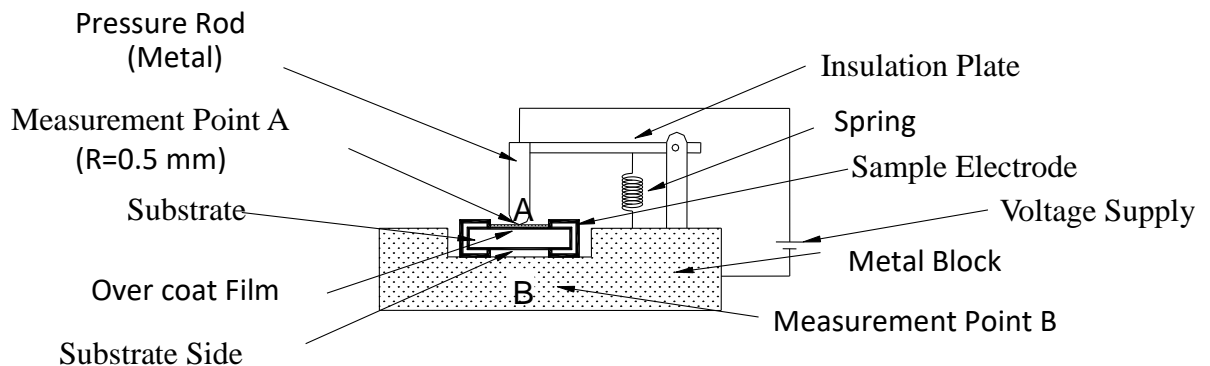

Figure 1 : Measurement Setup
| Insulation Resistance                         | Over 100 M $\Omega$ on Overcoat layer face upOver 1,000 M $\Omega$ on Substrate side face up  | (1) Setup as figure 1(2) Test voltage: 100VDC $\pm$ 15VDC(3) Test time: 60 + 10 / - 0 seconds |
| Voltage Proof                                 | Resistance range: $\pm 1.0\%$Without damage by flashover, spark, arcing, burning or breakdown | (1) Setup as figure 1(2) Test voltage: 100VAC(rms.)(3) Test time: 60 + 10 / - 0 seconds       |